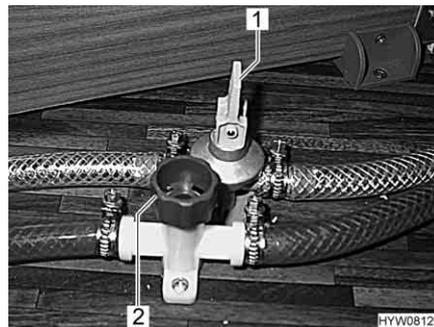

Fig. 141 Drain cocks
- Close all boiler drain cocks. To do this, position the rocking lever (Fig. 141,1) horizontally or turn the cap (Fig. 141,2) in a clockwise direction.
- Open all boiler drain cocks. To do this, position the rocking lever (Fig. 141,1) vertically or turn the cap (Fig. 141,2) in an anticlockwise direction.